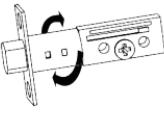

Figure 2b
- Rotate the cylinder cover clockwise (Figure 2b).